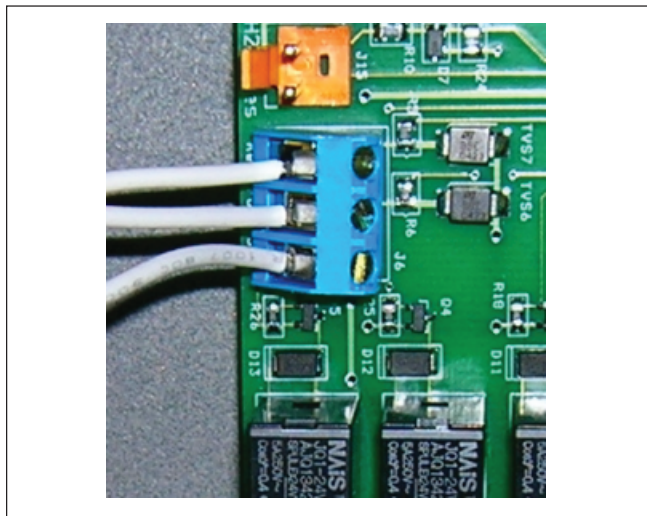

Figure 25. Remote Pool-Off-Spa Connection (3-Wire Connection)
4. Connect the wiring from the pool/spa control system to the heater remote control terminal. See Figure 25.